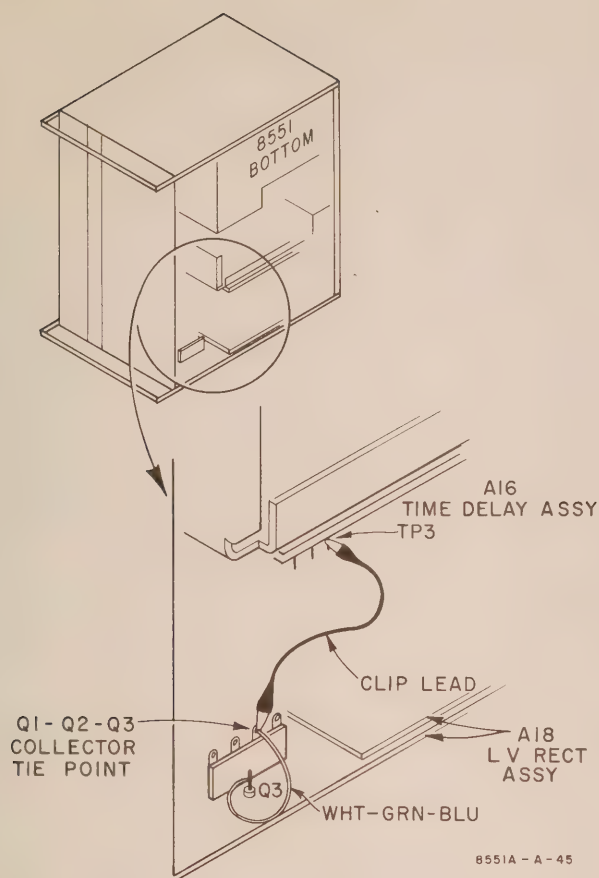

Figure 5-23. Shorting out LV Series Regulator Q1-Q2-Q3 for 8551 Relay K3 Check
- (1) Short out -6.3 V Series Regulator Q1-Q2-Q3 by attaching a clip lead from the Q1-Q2-Q3 tie point on Assy A18 to -6.3 (TP3) on HV TD Assy A16; see Figure 5-23.
- (2) Set variable transformer for 103.5 V and 8551 LINE to ON.